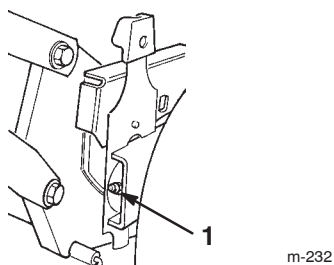

Figure 29
2. Wipe the grease fittings with a clean rag (Fig. 29).
3. Install a grease gun onto the fitting and gently apply 2 or 3 pumps of #2 multi-purpose lithium base grease (Fig. 29).